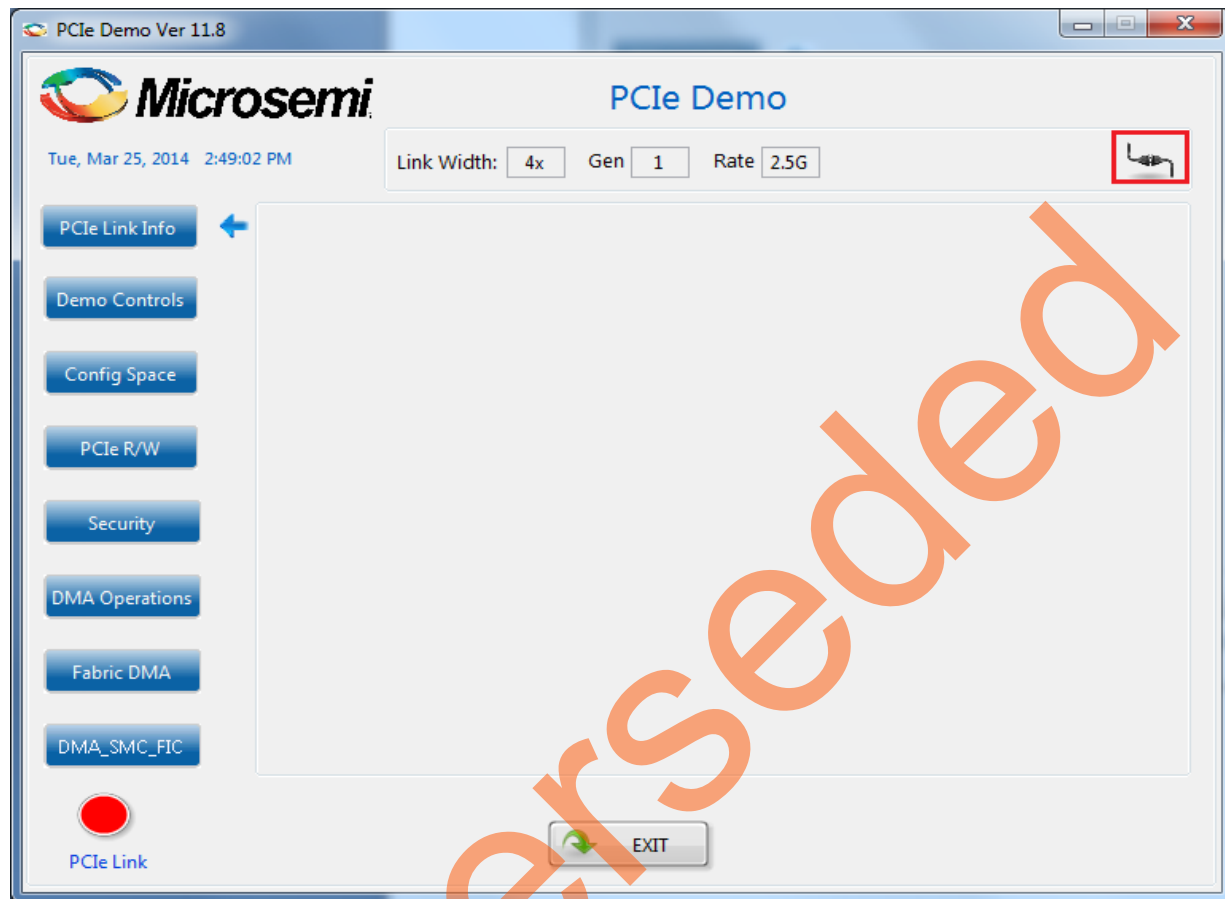

Figure 18 • PCIe Demo GUI
2. Invoke the GUI from **ALL Programs > PCIeDemo > PCIe Demo GUI**. The GUI is displayed as shown in Figure 18.